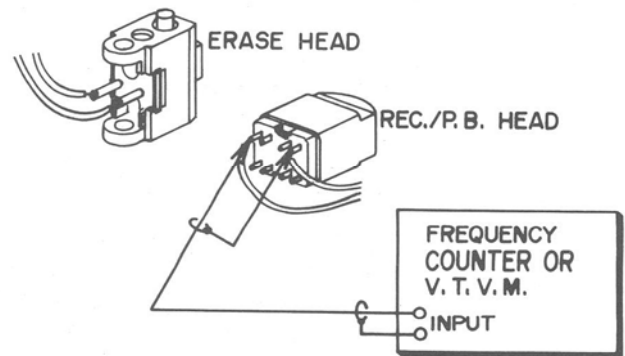

Fig. 24
(Refer to Fig. 24)
- (1) Set the GXC-75D to recording mode.
- (2) As shown in Fig. 24, connect a Frequency Counter to the coil terminals of the recording/playback head and read indication.
- (3) There is no way to adjust the recording bias frequency, but the correct frequency is 61 ± 3 kHz.
- (2) Connect a V.T.V.M. between the coil terminals of the recording/playback head as shown in Fig. 24 and read indication. Recording bias voltage should be about 3V A.C. with low noise tape and about 4V A.C. with chromium dioxide tape.
- (3) Connect a V.T.V.M. between the coil terminals of the erase head and read indication. Erase voltage should be 27V A.C. with low noise tape and 35V A.C. with chromium dioxide tape.
- c) Turn Dolby N.R. Switch SW20 to OFF position and, as shown in Fig. 24, ground "TP" test point (FET Gate).